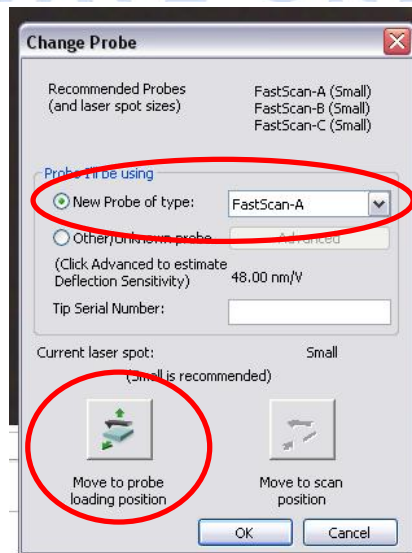

Figure 12. The Change Probe window.
- b) The "Change Probe" dialog window will appear; select the "Move to probe loading position" icon (Figure 12). This will move the stage away from the head so that the probe holder can be loaded.
- c) Select the type of probe loaded for use during the experiment from the drop down menu under the "New Probe of type:" heading (Figure 12).